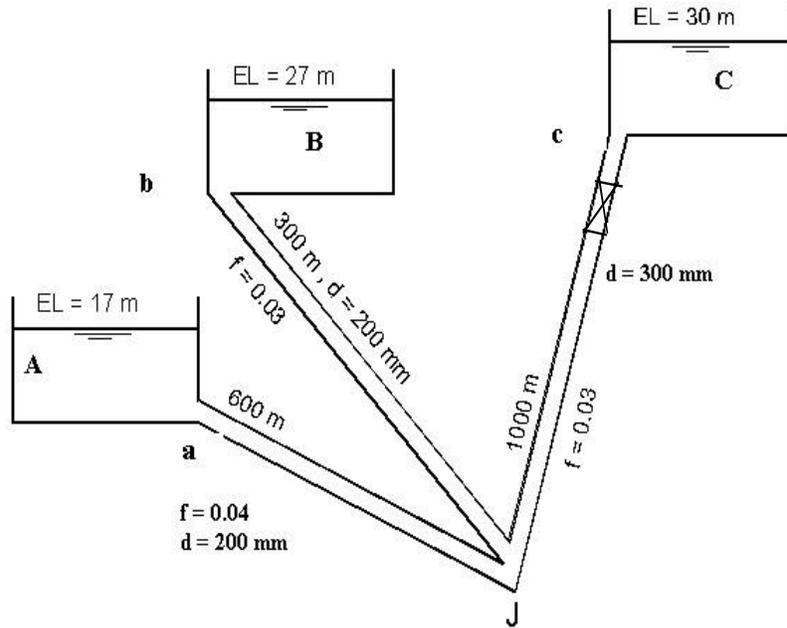

Fig.9
10. a- In the branched pipe system shown in Fig.9, find the flow rate in each branch. Attempt only two trials. (neglect all secondary losses). Draw the total energy line for the system. b- After determining the correct value of the flow rate in each pipe, will this value remain constant with time. c- After sufficiently long time what do you expect the level of water in the three tanks will be relative to each other if the height of all tanks was sufficiently large. d- In case the valve on the branch c-J was partially closed, find the valve constant 'r' so that no flow entering or leaving tank B, assuming the loss in the valve,  $h_l = r Q^2$ .